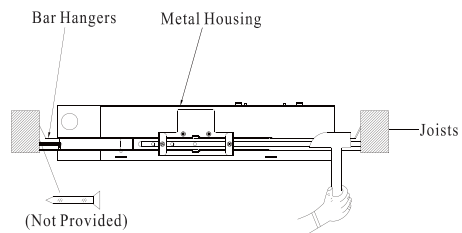

Fig. 2
2. Position metal housing and bar hangers between ceiling or wall joists. Make sure bar hangers are in the correct position to be mounted. Position metal housing temporarily by hammering nail-in tabs on bar hangers, then secure permanently with nails or screw. Bar hangers should be level with bottom of joists (Figure 2).